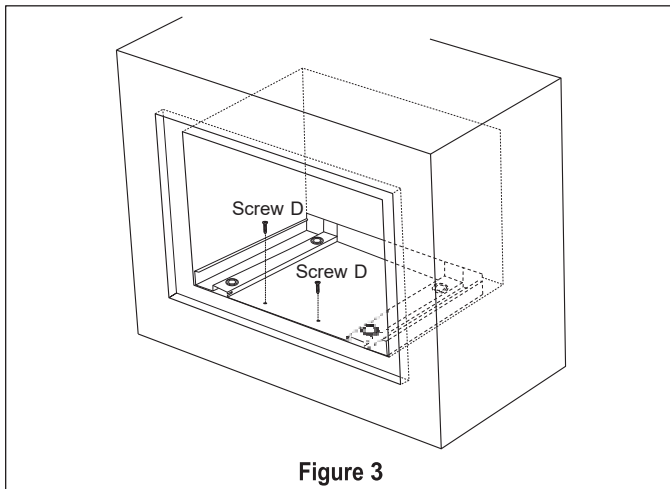

Figure 3
1. Place the Exhaust Duct Assembly in the center of the opening. Align the front edge of the duct with the front of the cabinet. Align the front edge of the right side of the duct with the front of the shelf. See Figure 3.
2. Secure the Exhaust Duct Assembly with 2 SCREWS D. See Figure 3.